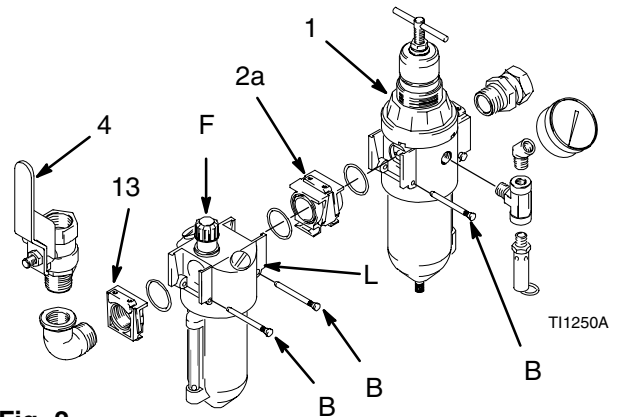

Fig. 2
- **The bleed-type master air valve (4)** is supplied to relieve air trapped between it and the air motor when the valve is closed (see the **WARNING** above). Be sure the bleed valve is easily accessible from the pump, and is located **downstream** from the air filter/regulator (1). Fig. 2.
- **The air filter/regulator (1)** controls pump speed and outlet pressure by adjusting the air pressure to the pump. It also removes harmful dirt and moisture from the compressed air supply. Locate the regulator as close as possible to the equipment it serves, but **upstream** from the bleed-type master air valve (4). Install the regulator in the air line so the air flow is in the direction of the arrow stamped on the body. Fig. 2.
2. Remove the pin (B) from the outlet of the filter/regulator. Fig. 2
4. Slide the threaded end insert off (13) with outlet fittings still attached.
5. Install the modular connector (2a) (with o-rings and grease provided) between the filter/regulator and the lubricator (L).
6. Install the threaded end insert (13) onto the outlet of the lubricator (L) (with o-ring and grease).
7. Install the three retaining pins (B).
The lubricator meters oil into the moving air stream to automatically lubricate air-operated motors. A manual adjustment in the housing (F), Fig. 2, sets the oil drip rate into the air stream, which can be monitored through a sight glass. One to two drops of oil per minute is common. Use an oil rated at 50 to 200 SUS (ISO grade 7 to 46) at 100°F (38°C), such as Graco motor oil, Part No. 202659.
To refill, unscrew the fill plug (L, Fig. 2) and pour in the oil. The lubricator's capacity is 7 oz. (0.2 liter). Check the oil level with the side sight glass. The lubricator can be refilled with the system pressurized. However, always **relieve the system pressure** before removing the bowl for any reason.
2. Close all bleed-type master air valves, including the bleed-type master air valve (4), supplied in your system. Fig. 2.
3. Turn the regulator T-handle all the way counterclockwise if you are removing the air filter/regulator (1) bowl, or servicing the air filter/regulator.
4. Slowly open the air filter/regulator (1), Fig.2. Use the filter/regulator to control pump speed and fluid pressure. Always use the lowest air pressure necessary to get the desired results. Higher pressures cause premature tip and pump wear.